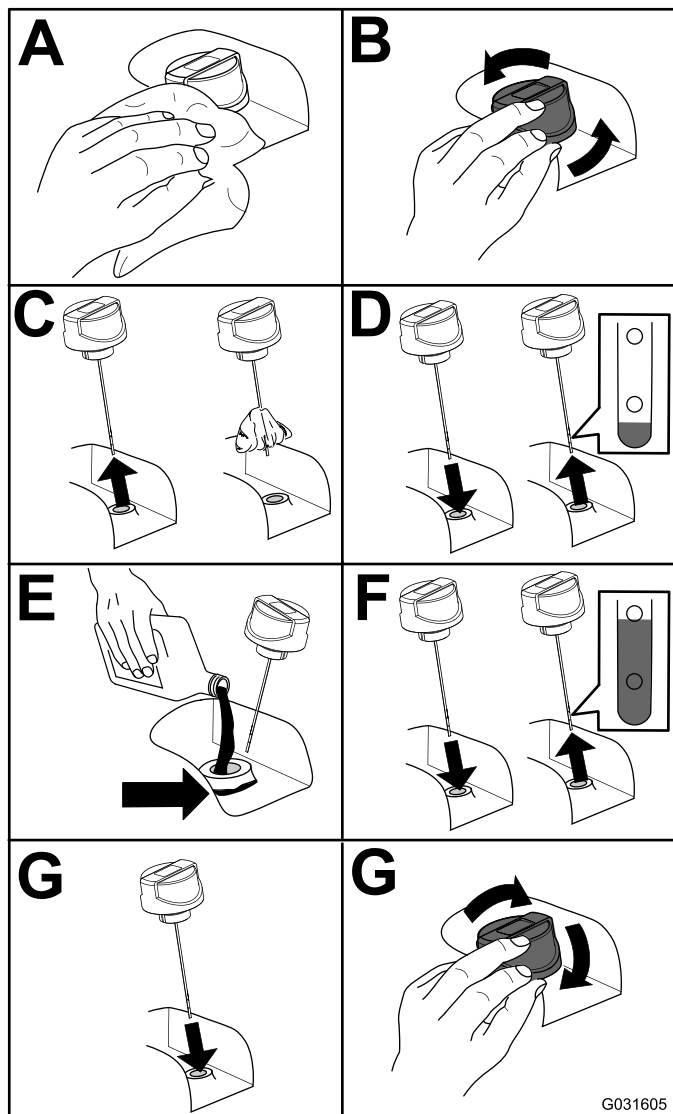

Figure 65
2. Check the hydraulic-fluid level (Figure 65).
5. Fill the reservoir with hydraulic fluid (Figure 65).